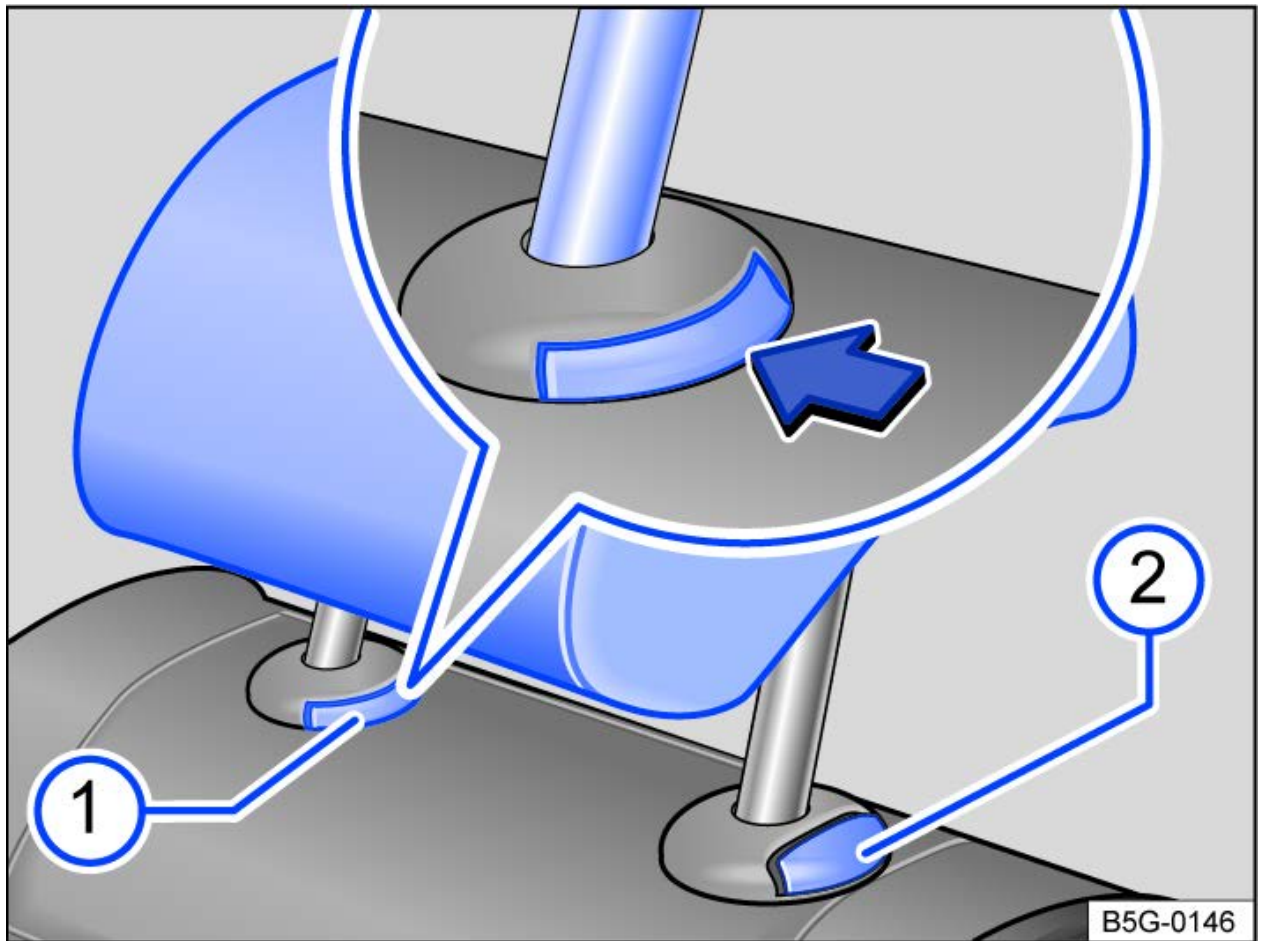

Fig. 2 Rear head restraint: removing.
- Press the button → *fig. 2* (1) on the head restraint guide.
- At the same time, press button (2) while a second person pulls the head restraint all the way out.